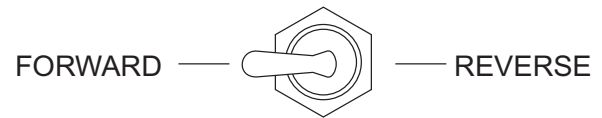

Figure 22. Direction Control Switch (FORWARD)
4. Place the **Direction Control Switch** to the **FORWARD** position (Figure 22).